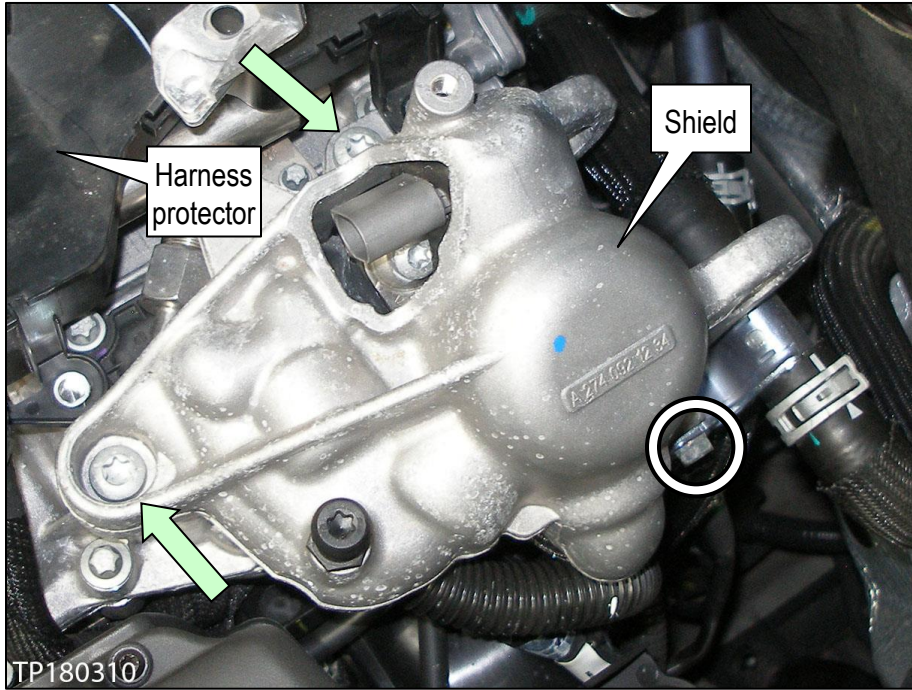

Figure 9
9. Remove the four (4) shield T45 bolts, and 10 mm bolt (see Figures 9 and 10).